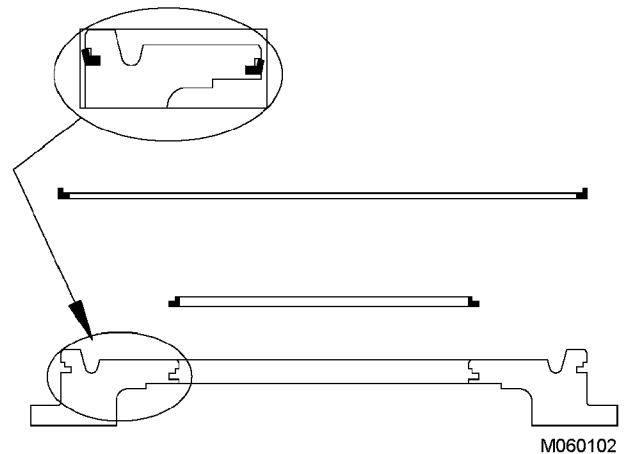

FIGURE 7-66.
25. Install both hook-type seal rings (17) in the grooves in the shaft. Rotate the rings so the slits in the rings are 180 degrees apart from one another.
26. Lubricate the seal ring grooves of piston (23) with an oil-soluble lubricant such as engine assembly grease. Install small seal ring (24) in the inside groove and large seal ring (22) in the outside groove. Refer to Figure 7-66 for proper orientation.